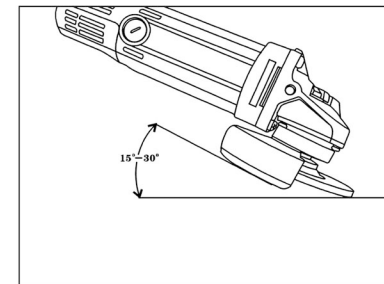

Fig6
2. Generally speaking, please keep the grinding and cutting part of the wheel and disc in the scope of 15 to 30 degree with the surface of processing object. (Fig 6)